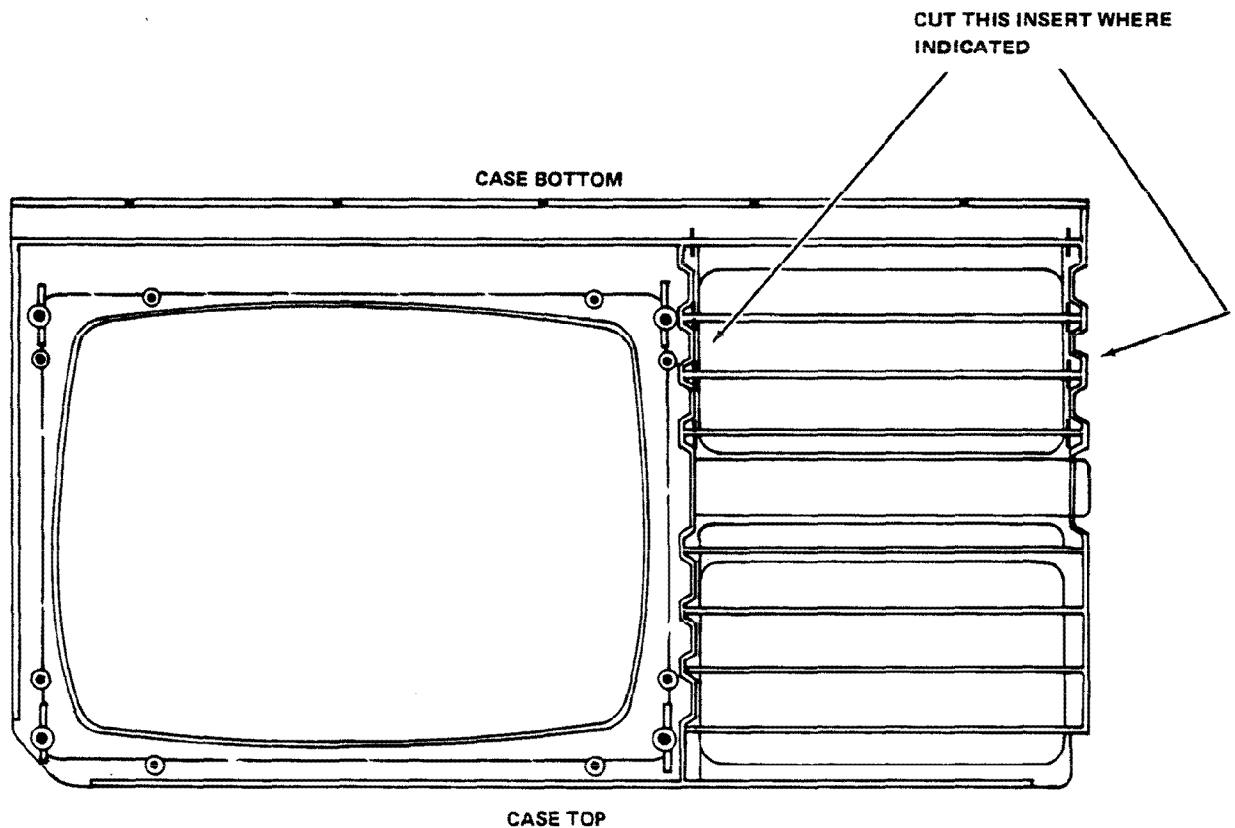

FIGURE 6. CASE BEZEL (shown looking inside Case with Case Top upside down)
21. Use a pair of large dykes to cut the bottom position insert in the Case Top as illustrated in Figure 6. After the insert is cut loose, remove it by pushing on it from outside of the case. Trim off the rough edges around the opening.